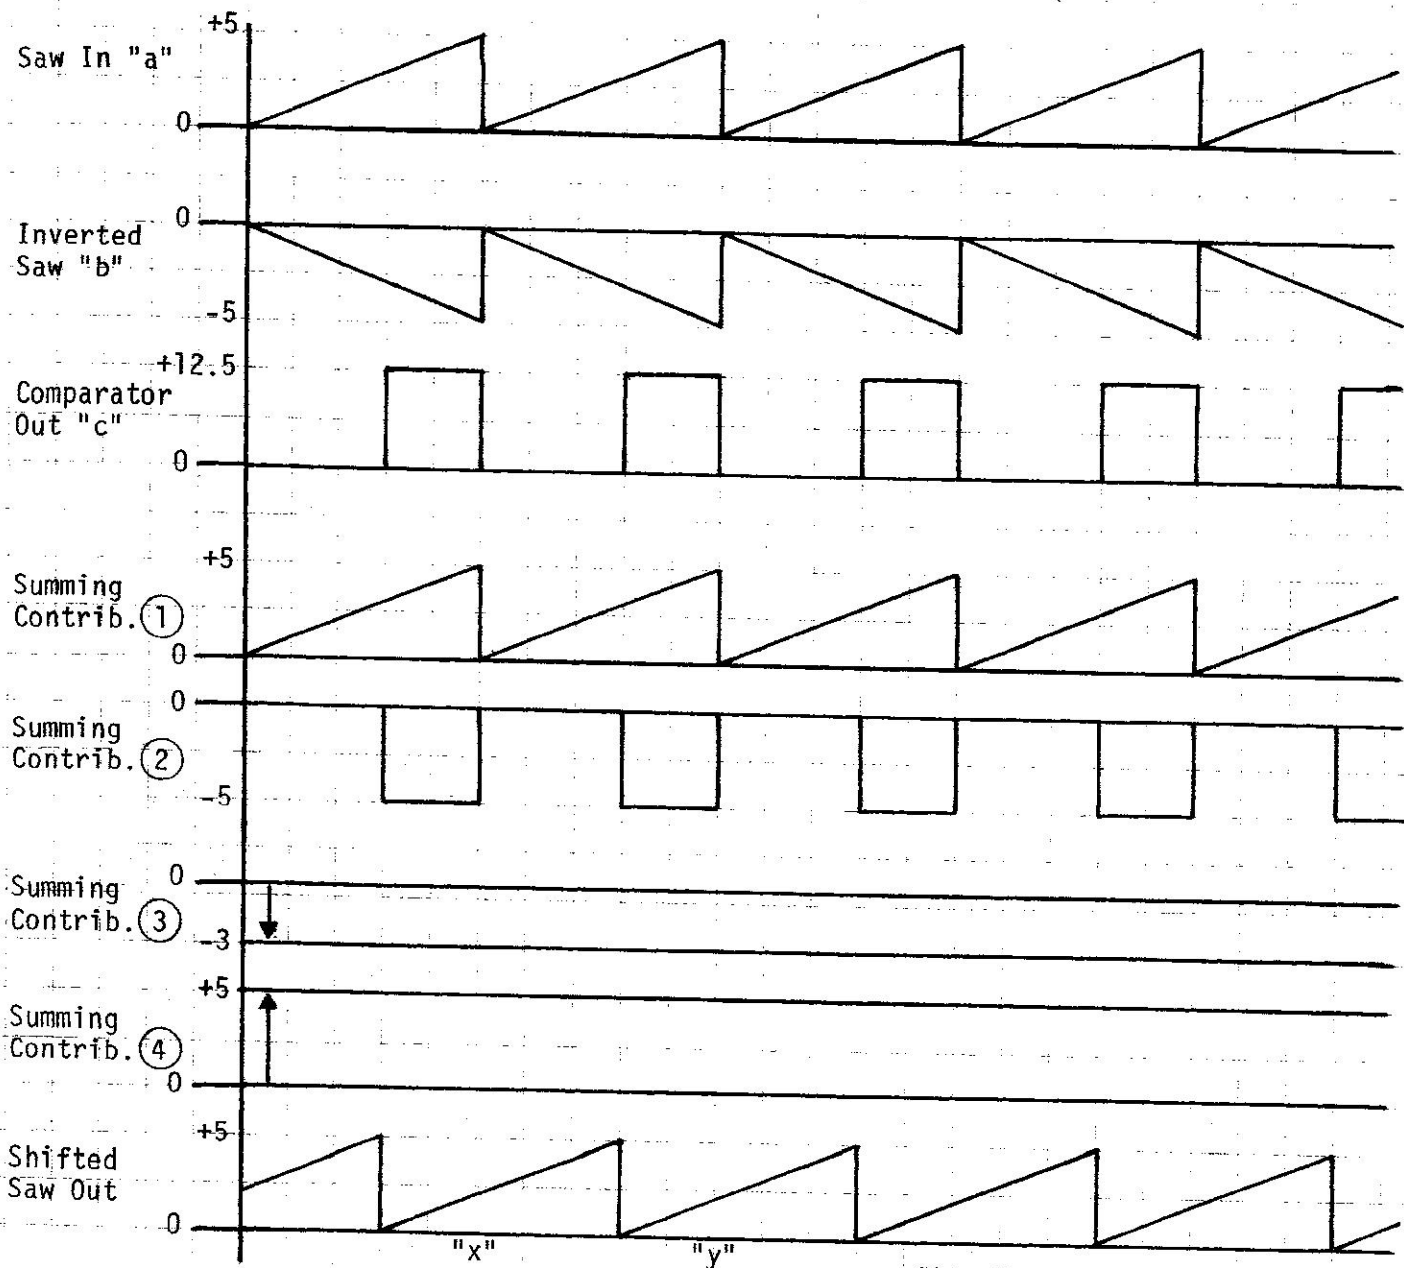

Fig. 2
In Fig. 1, op-amp A1 serves the simple function of inverting the input sawtooth. If there are many shifts to be accomplished, A1 can be used to drive all the sections, and only the A2 and A3 part of the circuit needs to be repeated. A2 is just an op-amp used as a comparator, and A3 is the usual type of op-amp inverting summer. Keep in mind that A3 is inverting in what follows. First, there are two negative voltage contributions ① and ④ in Fig. 1, which result in a positive output of A3. These contributions are ① the inverted sawtooth and ④ a constant -5 volts, so the output of A3 with only these two contributions would be a sawtooth varying from +5 to +10. This sawtooth is then brought down by contribution ③ which subtracts the shift control voltage from the output of A3. Finally, there is a contribution ② which (allowing for the diode drop and the fact that A2 does not reach its full supply voltage, but rather something like 13.7 on a 15 volt supply) subtracts 5 volts from the output of A3 whenever the comparator is high, which occurs when the sawtooth at the input goes above the level of the shift control voltage. Thus 5 volts is subtracted from a portion of the sawtooth, and this accounts for the change of phase as will be clear from Fig. 2.
A study of Fig. 2 will show that the waveforms and summing contributions from Fig. 1 do in fact add up to the shifted sawtooth shown. Note that the unshifted sawtooth results from a shift control voltage of zero or of +5, and the sawtooth shifts a full 360° for voltages between 0 and +5. The voltage "c" is something like 12.5 volts, but depends on the shifted saw out at points in the ramp such as those marked with "x" and "y".